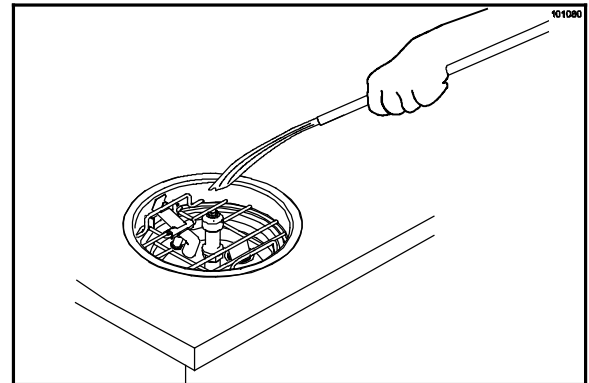

Figure 125
78. Carefully spray the proper amount of drain cleaning solution into the rinse station drain hole. (See Figure 125.)